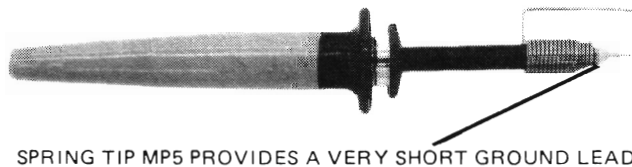

Figure 3. Probe with Ground Spring
7. PROBE WITHOUT HOOK TIP OR GRABBER. The probe can be used for point-to-point probing by removing hook tip MP1 or grabber MP7 from probe assembly A1. Ground the probe by attaching snap-on ground lead MP3 or ground spring MP5 (see figure 3).